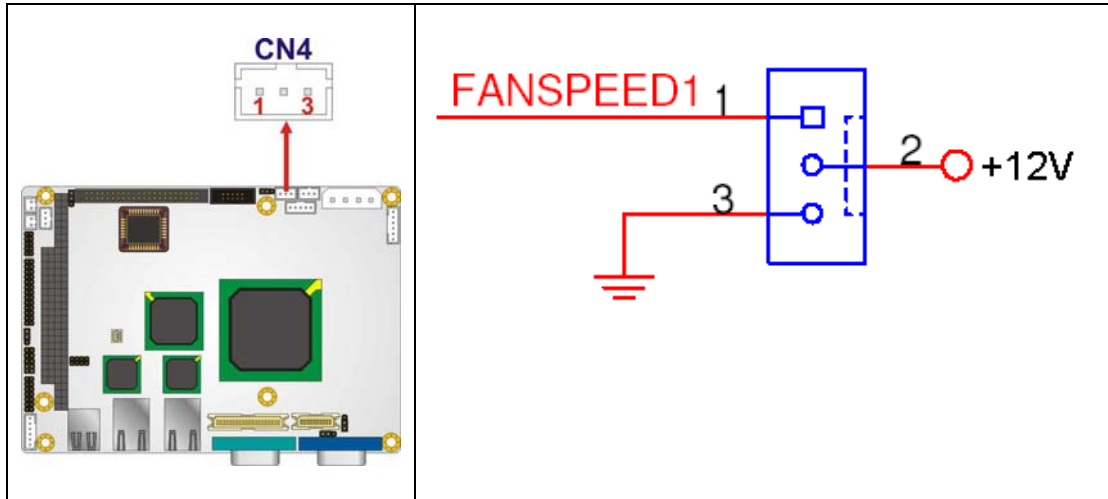

Figure 4-10: +5V Fan Connector Location
- CN Location:** See **Figure 4-10**